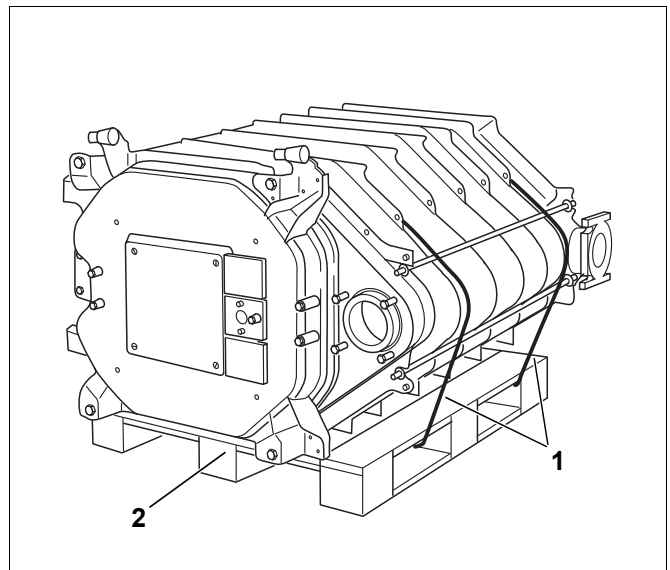

Fig. 23 Boiler block on pallet
- Cut through the strapping bands (Fig. 23, [1]).
- Remove the pallet prior to positioning the boiler (Fig. 23, [2]).